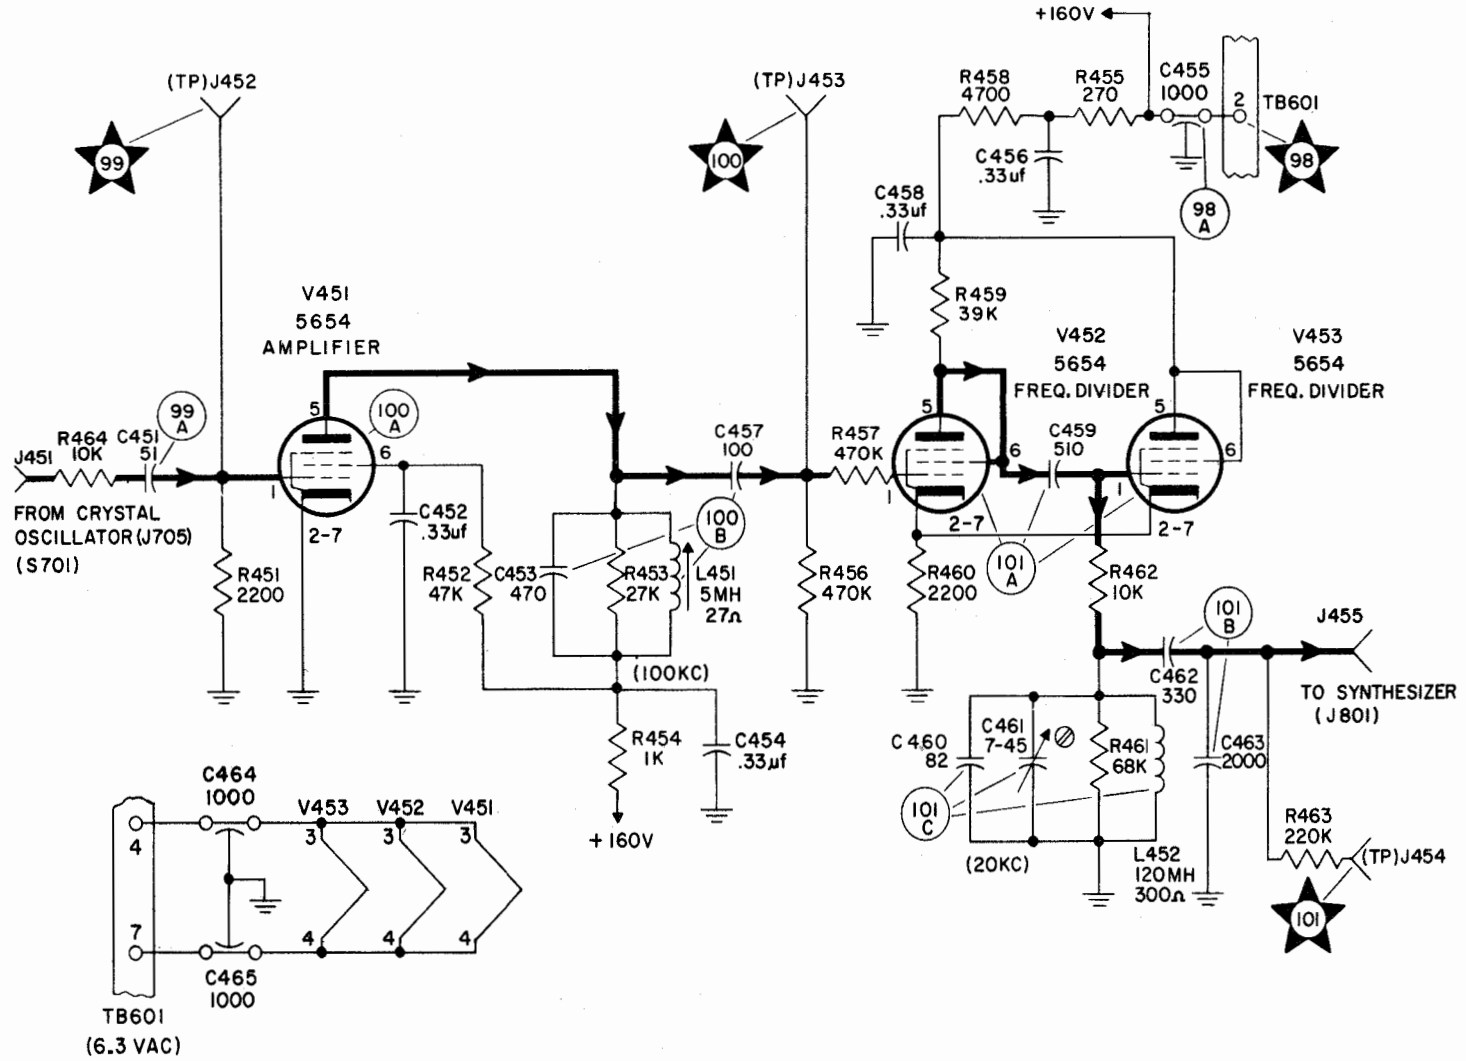

Figure 5-58. Frequency Divider, Functional Schematic Diagram
(See figure 5-58.)
f. FREQUENCY DIVIDER TROUBLE-SHOOTING CHART.—Table 5-22 lists the steps for trouble-shooting the frequency divider. Perform them in the order given. Figure 5-58 is the functional schematic diagram of the frequency divider, and figure 5-60 shows the location of test points. Table 5-23 gives voltage and resistance values at the socket pins of tubes V451, V452, and V453. To reach these, take the frequency divider subassembly out of the drawer and remove the cover plate from the bottom. Refer to Section 6 for removal instructions.
Figs. 5-58 5-59 5-60 Table 5-23	100 kc 1.0 vac output. Measure signal at TP J453 with VTVM. Connect Y axis of oscilloscope to TP J453, X axis to TP J452 and note Lissajou pattern.